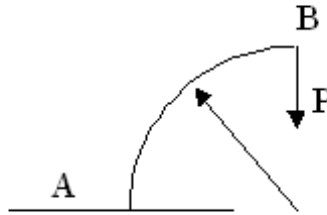

Figure 5
5. A quarter ring of radius R fixed at A and loaded at free end B by point downward load P as shown in figure 5. Find the horizontal and vertical deflections at B using unit load method. $EI = \text{constant}$. [16]